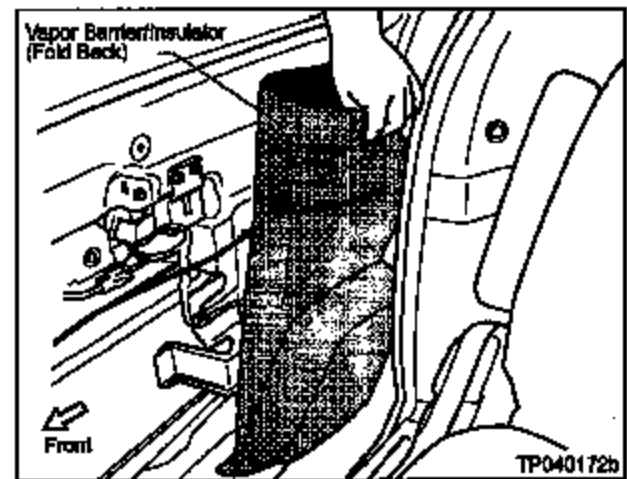

Figure 7
- b. Now, roll the Vapor Barrier/Insulator back and wedge it between the door and the body (see Figure 7). Now you'll be able to get to the Sliding Door Latch Assembly.